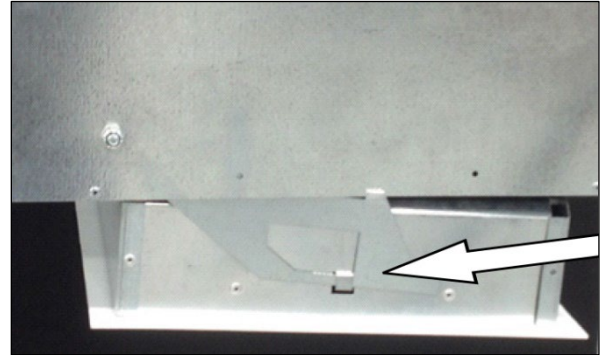

Figure 4
4. Place fixture between spring arms and engage tab on fixture head with slot on spring arms, as shown in **Figure 4**.